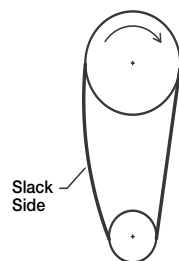

Figure 12a
9. **Sizes 097-160:** Belts should be tensioned just enough to prevent slippage at full load. Belts should have a slight bow on the slack side while running at full load, see Figure 12a.